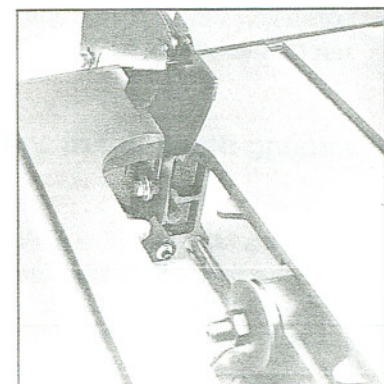

Fig. 15
6. Look into table insert opening and make sure front tab of blade guard is between the flat washer and the trunnion bracket. (Fig. 15) Tighten enough to hold in place but loose enough to allow for adjustment. You will need to install blade before final adjustment.